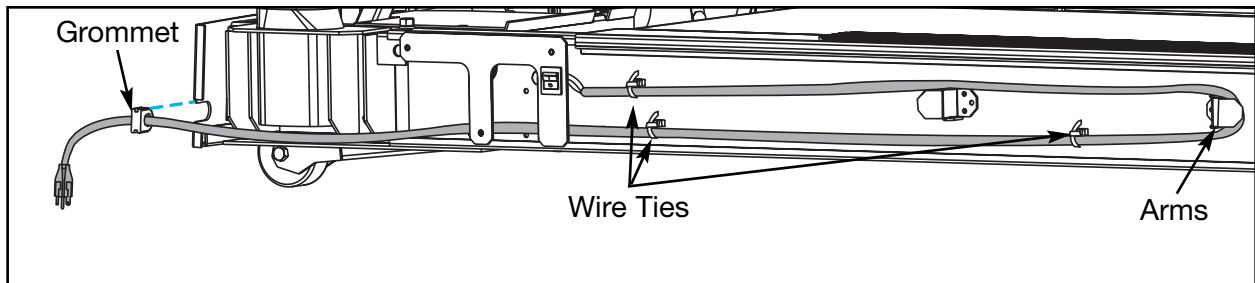

Figure 11
- b. Slide the grommet into the front exit hole with the curved end first. See Figure 11.